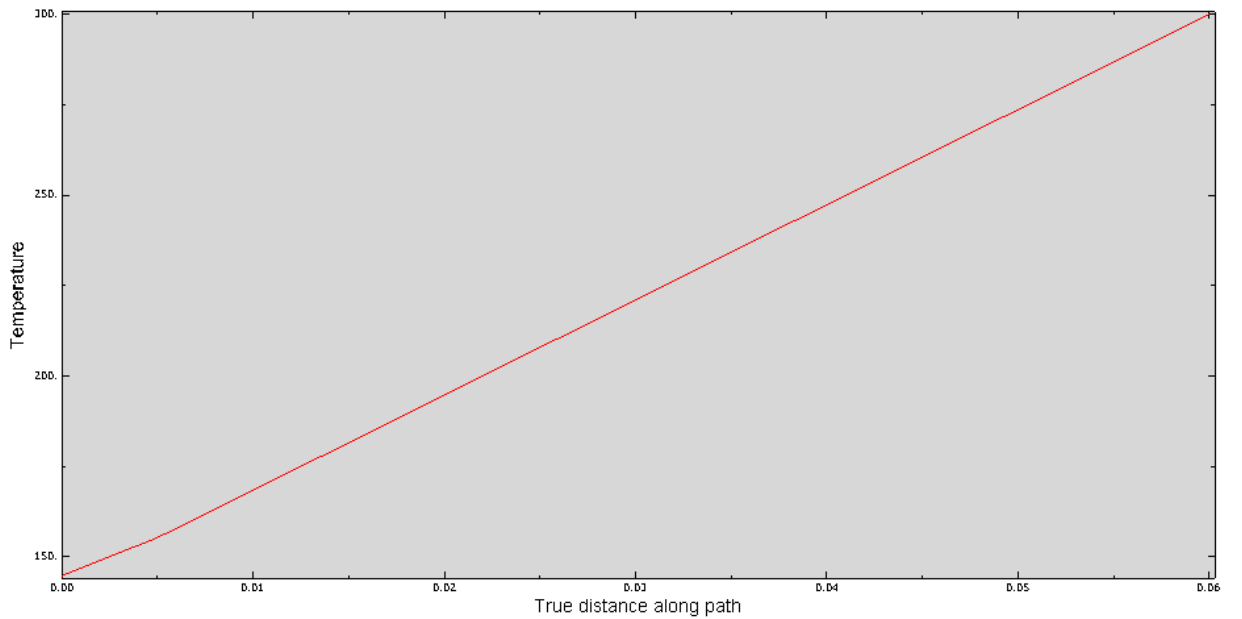
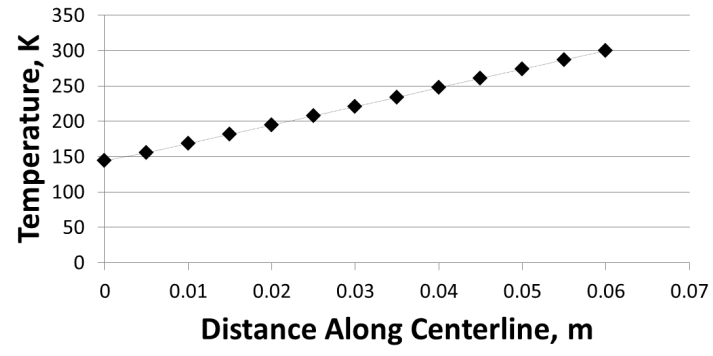

Figure 25
Figure 26
- Select Plot to create a plot of the temperature over the x distance as in Figure 25.
- Since the plot in Figure 25 is difficult to format and compare with other results, it can be useful to copy the data selected in the previous step into a better plotting program (excel, matlab, etc) as in Figure 26